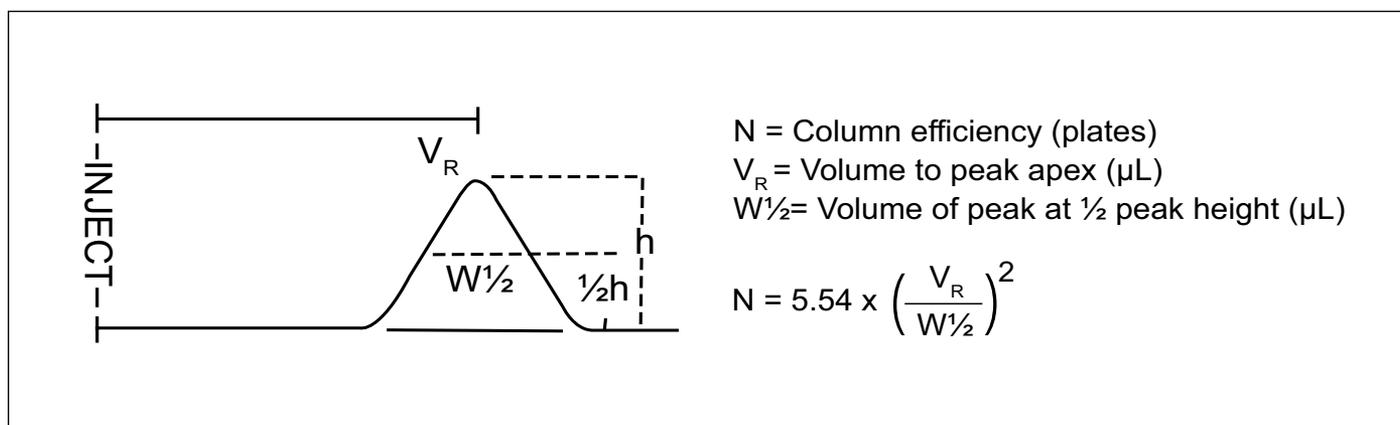

Figure 2. Half height method test calculations
Calculate the plates (MN) at the half height using the calculations shown in Figure 2.